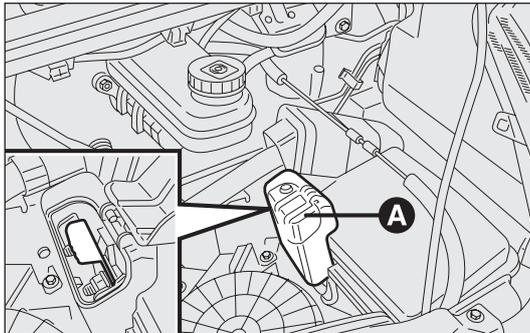

fig. 157
- raise the flap A to gain access to the positive battery terminal fig. 157.